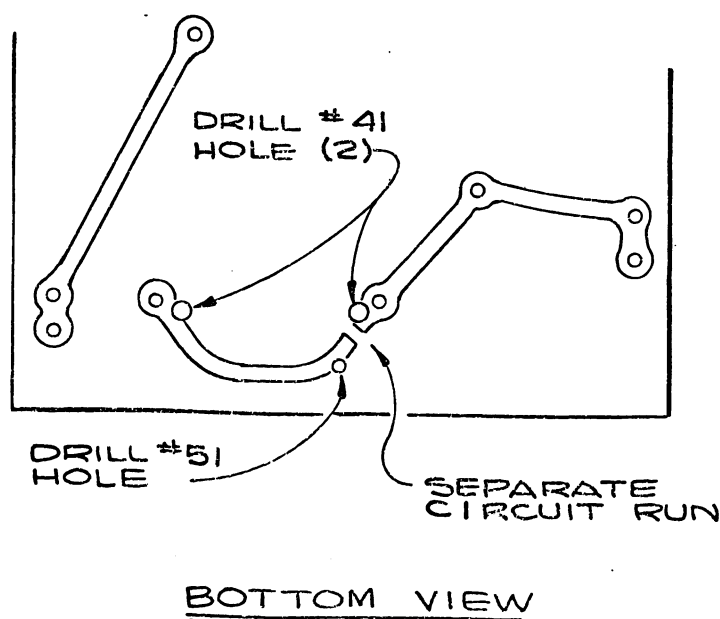

FIG. 1
- Remove approximately 3/16" of the circuit run (with an X-acto[®] blade or equivalent) as shown in Fig. 1.
- e) Drill two #41 holes in the circuit board. See Fig.1
- f) Install, from Fig.1 side of board, the 210-0632-00 (large) eyelets in the holes (do not crimp), and solder to circuit runs. DO NOT fill eyelets with solder.
- h) Drill a #51 hole in the circuit board. See Fig.1.
- i) Install, from Fig.1 side of board, a 210-0629-00 (small) eyelet in the hole, crimp*, and solder it to circuit run. DO NOT fill eyelet with solder.